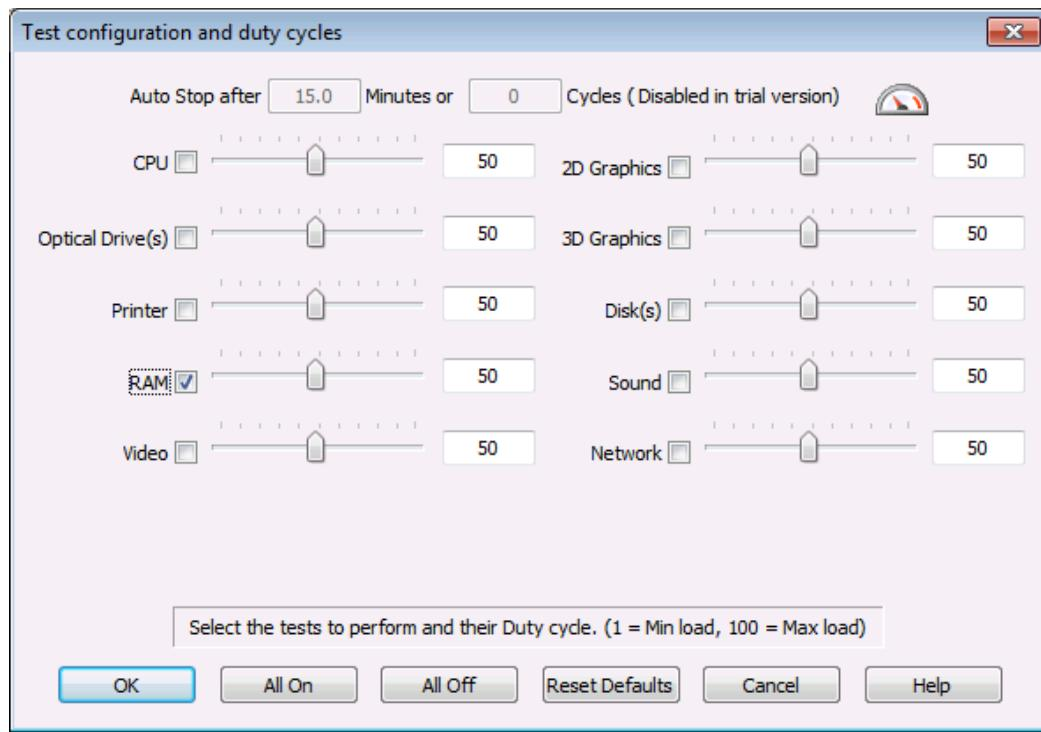

Figure 5.9
3. Check on “RAM” and other subjects unchecked. The window becomes (see Fig.5.9):